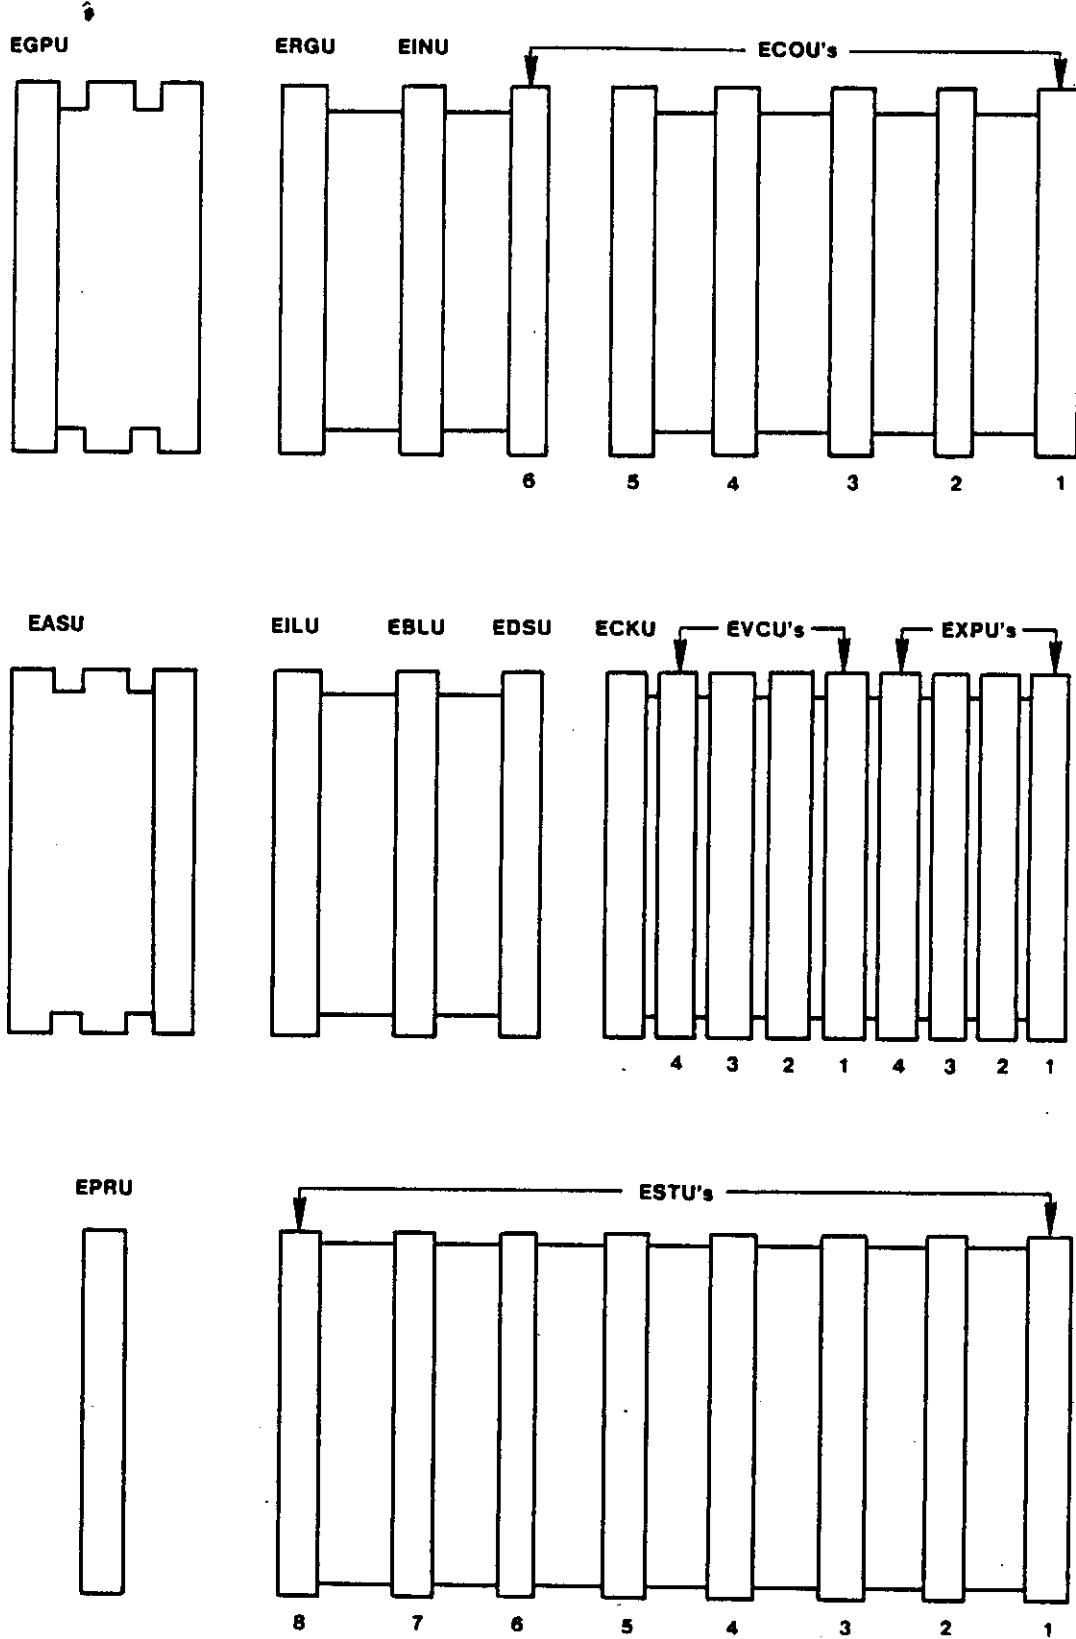
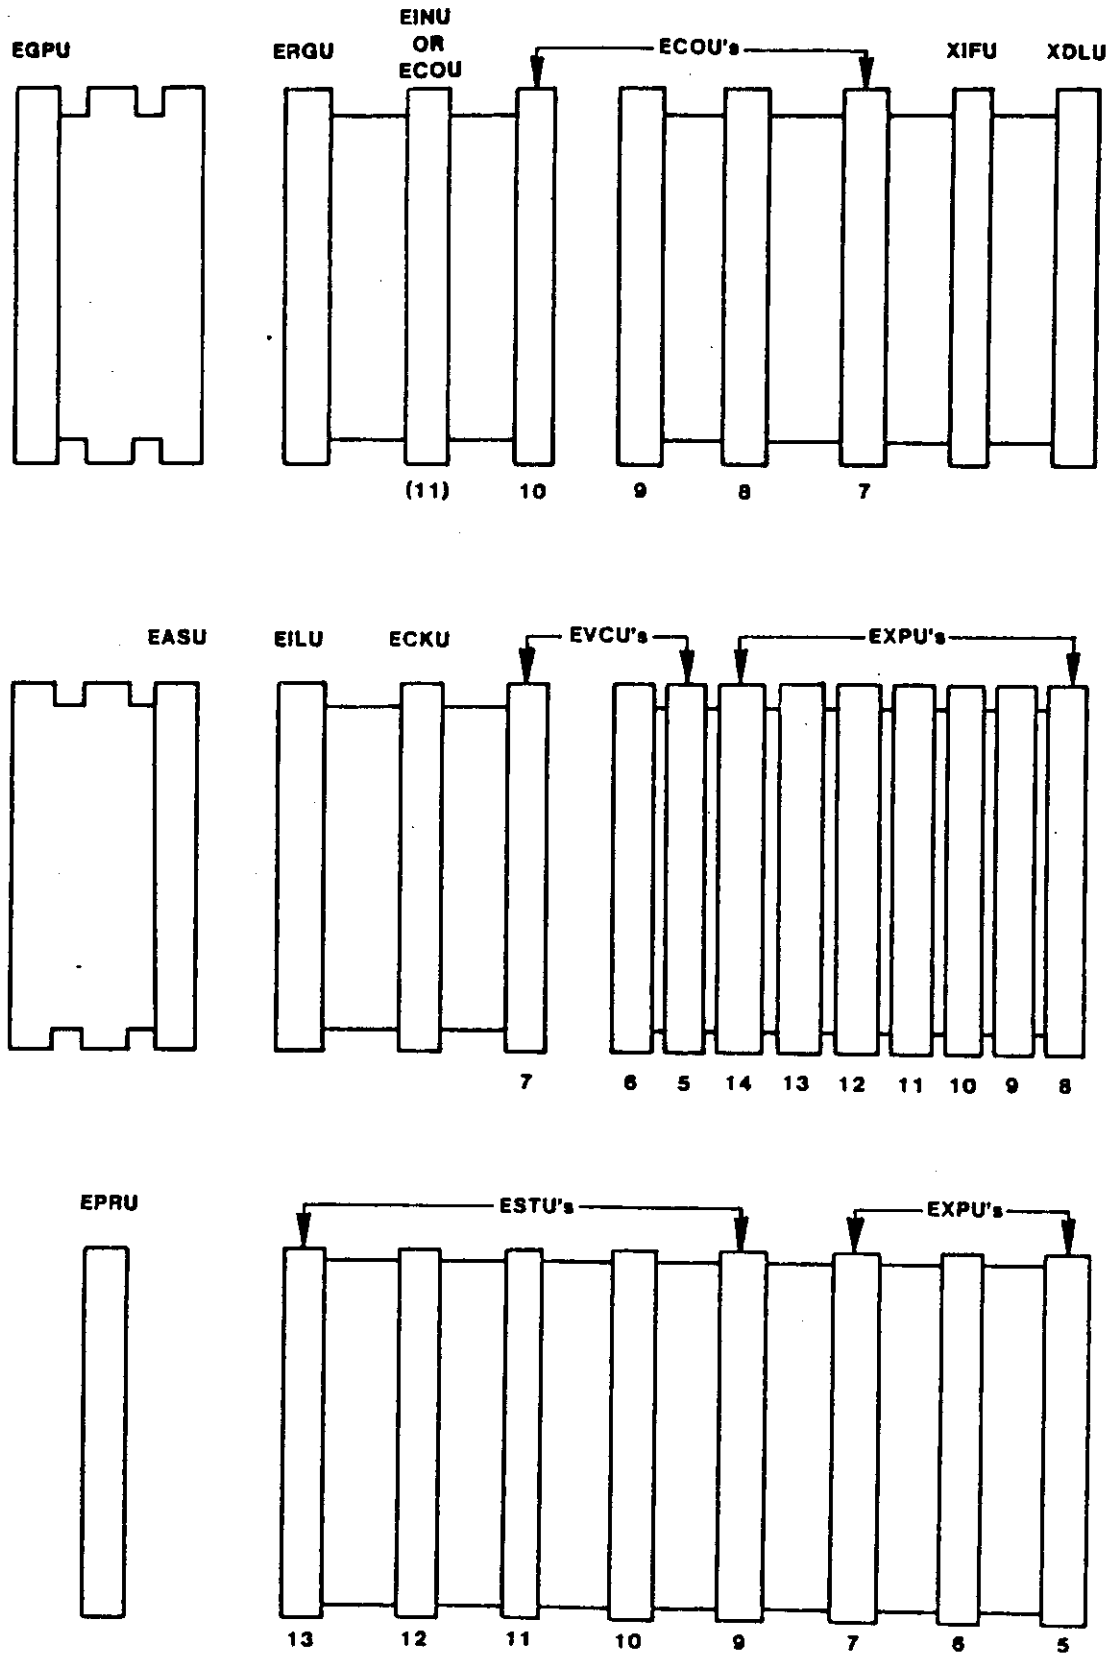

FIGURE 1—REAR VIEW—PCB CONNECTORS IN EKSU
FIGURE 2—REAR VIEW—PCB CONNECTORS IN XKSU
2.3 If back-plane wiring is to be performed, remove the rear key service unit cover(s). Refer to figure 1 for EKSU PCB connector locations and figure 2 for XKSU connector locations.